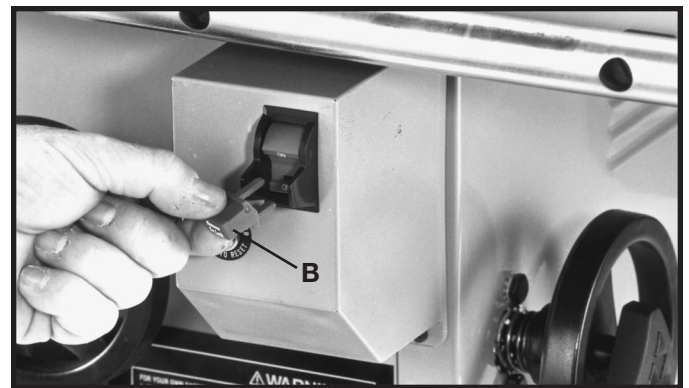

Fig. 40
IMPORTANT: When the tool is not in use, the switch should be locked in the “OFF” position to prevent unauthorized use. Grasp the switch toggle (B) and pull it out as shown in Fig. 40. With the switch toggle (B) removed the switch will not operate. However, should the switch toggle be removed while the saw is running, it can be turned “OFF” once, but cannot be restarted without inserting the switch toggle (B).